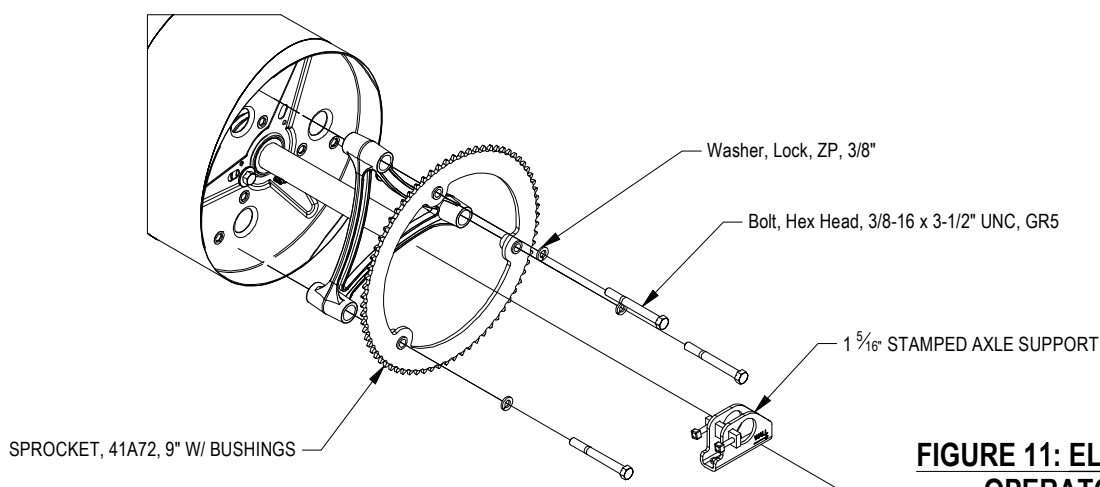

FIGURE 11: ELECTRIC OPERATOR
- ▶ Attach Support Spacer and Spocket to drum using (3) $\frac{3}{8}$ " lock washers and $\frac{3}{8}$ -16 x 3- $\frac{1}{2}$ " Hex bolts.
- ▶ Tighten $\frac{3}{8}$ " - 16 square head set screws when in place. See Figures 11.